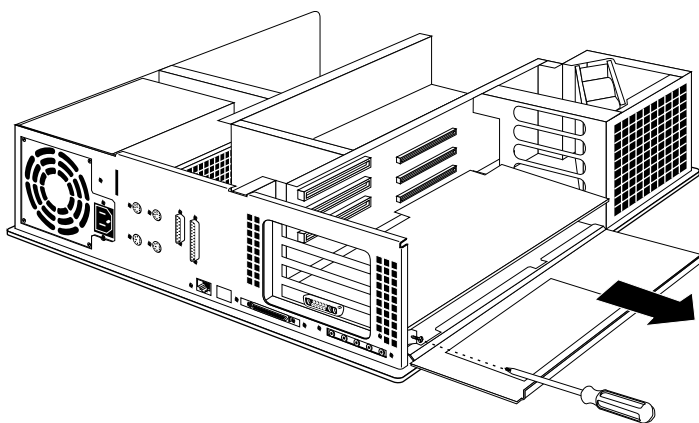

Figure 8-9 Removing the Screw From the Metal Extension
4. Remove the screw attaching the graphics board to the system slot as shown in Figure 8-9.